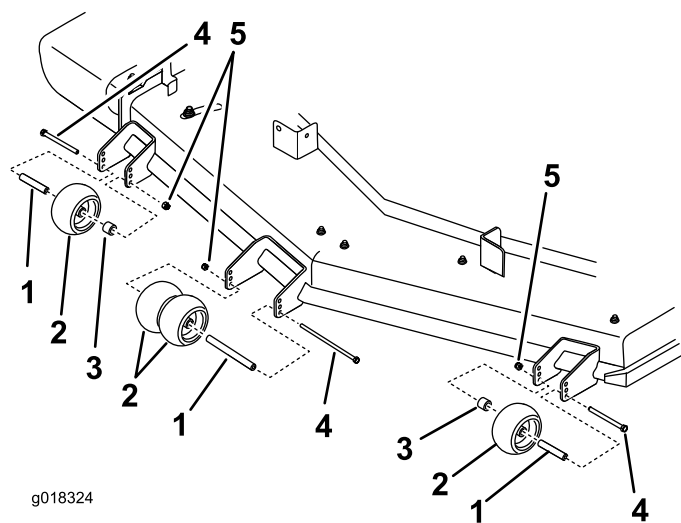

Figure 29
4. Ensure the spacers and bushings are installed (Figure 29).